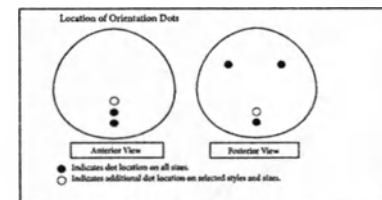

FIGURE 1
- Anatomically shaped Natrelle® single lumen gel-filled breast implants include orientation dots to aid in correct implant positioning during surgery (see Figure 1).